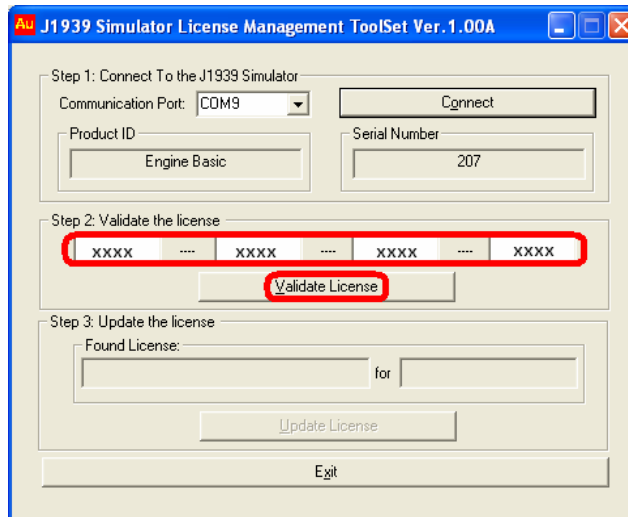

Figure C-11
2. Enter a validate license code in the license management toolset, then click "Validate license" button (Figure C-11)